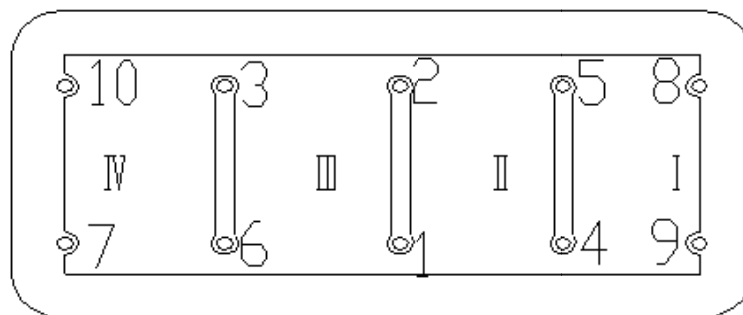

Figure 4-28 Tightening Order
- (1) Check the assembled parts to make sure they are clean without injury by collision, scratch and rust;
- (2) Lightly put the rocker arm and rockshaft assembly on the cylinder head subassembly, and then put the standard elastic washer on it, loosen the hexagon bolts.
- (3) Tighten up the hexagon bolts, and the tightening order is as shown in Figure 4-28.